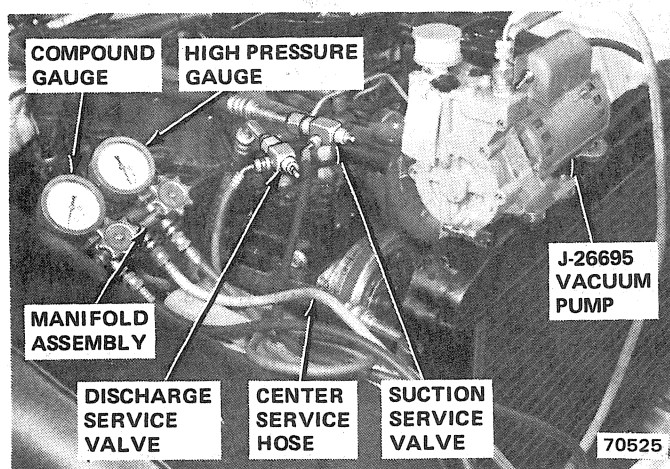

Fig. 3E-14 Typical Connections for Evacuating System with J-26695 Vacuum Pump
(1) Connect pressure gauge and Manifold Assembly Tool J-23575.
(2) Discharge system.
(3) Connect center service hose to inlet fitting of vacuum pump (fig. 3E-14).